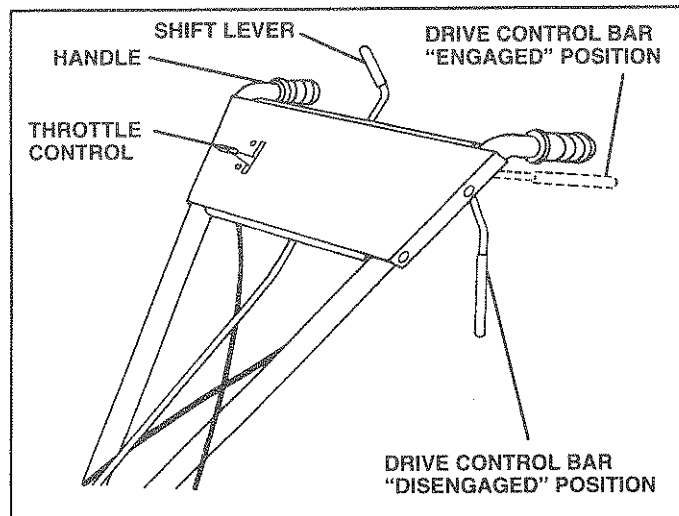

FIG. 9
### STOPPING (See Fig. 9)
- You will find tilling much easier if you leave a row untilled between passes. Then go back between tilled rows. (See Fig. 9) There are two reasons for doing this. First, wide turns are much easier to negotiate than about-faces. Second, the tiller won't be pulling itself, and you, toward the row next to it.